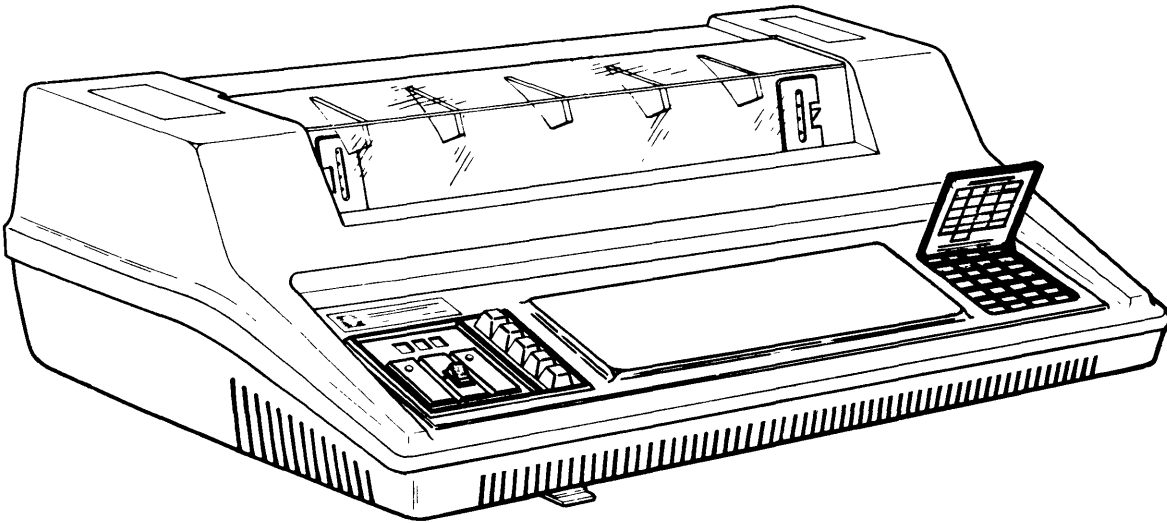

Figure 1-2. Omni 800 Model 820 RO Terminal
The Texas Instruments *Omni 800** Model 820 Receive-Only (RO) Terminal shown in Figure 1-2 consists basically of: